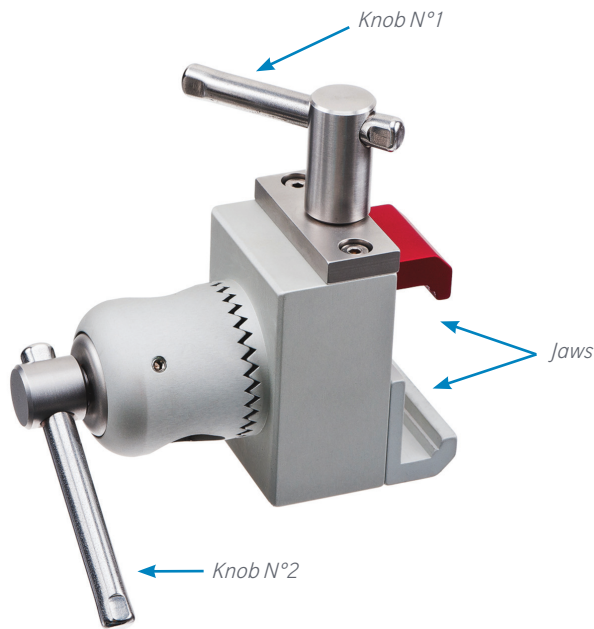

Figure 1
- Attach rotating table clamp to surgical rail by the top and bottom jaws and tighten knob N°1 to secure the clamp at the desired location (Figure 1). Using the same method, attach the second rotating table clamp to the opposite side of the table.